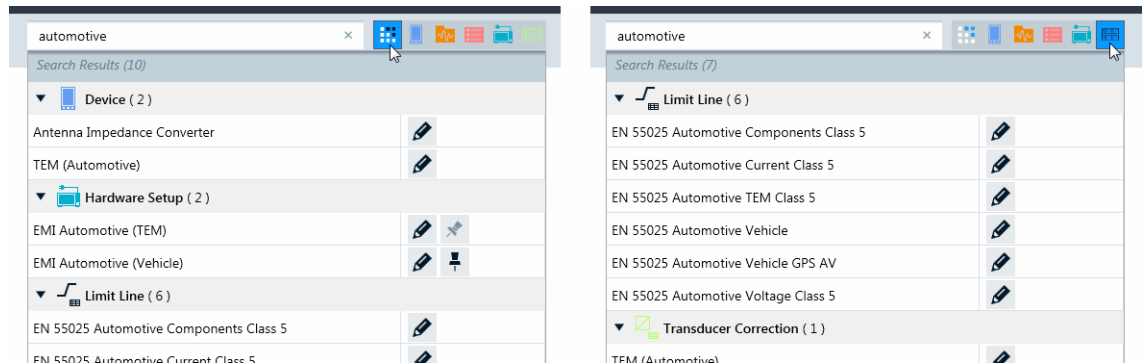

Figure 6-1: The dashboard search and its filter buttons
- When you select the left filter button ("Search All"), as shown on the left in Figure 6-1, the hit list comprises all categories of items.
- When you select the right filter button ("Search Tables"), as shown on the right in Figure 6-1, the hit list comprises only tables.